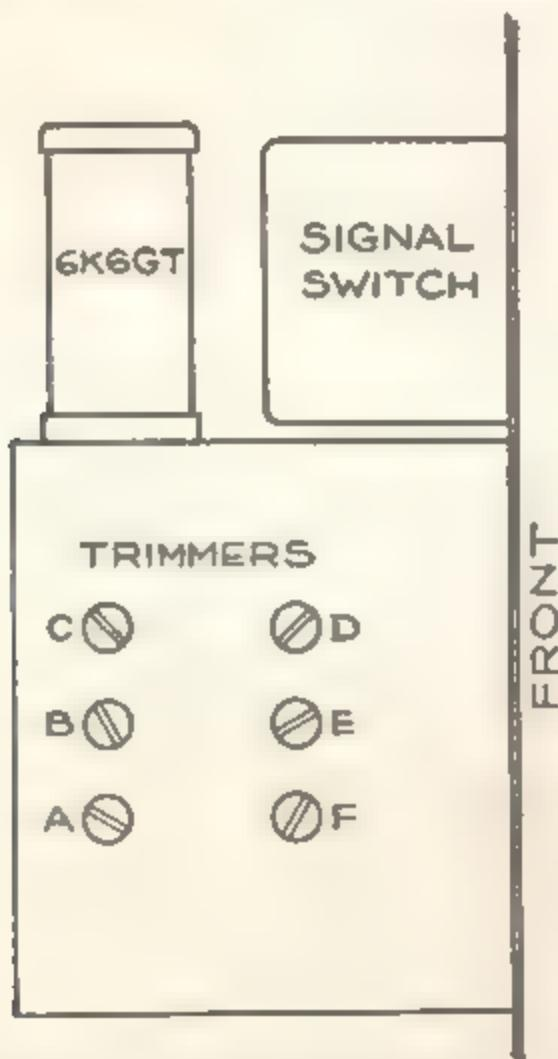
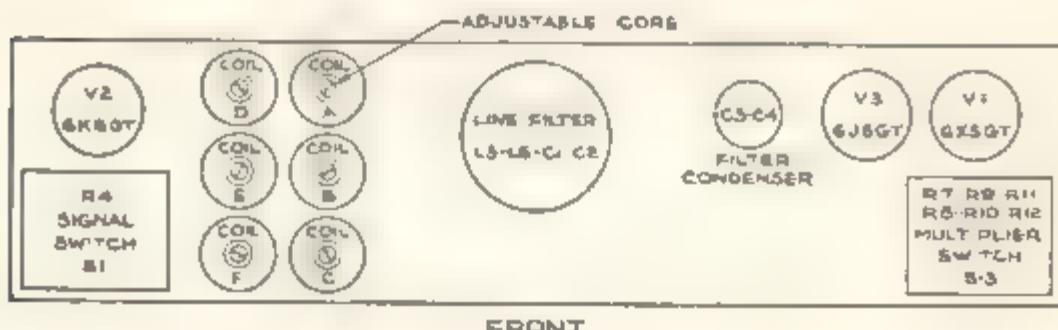

Figure 13 End View of Model 340 Chassis Showing Location of Trimmer Adjustments
Figure 14 Top View of Model 340 Chassis Showing Location of Cells and Tubes
The tubes in the Model 340 will normally have a long life but should be checked occasionally and, if they show any weakness, should be replaced with new ones. The RF oscillator tube, 6K6GT, should be replaced with a GT type of tube only. The location of tubes is shown in the top view of the chassis, Figure 14.
is shown in Figure 14 and a view of the left end of the chassis with the location of the trimmers indicated is shown in Figure 13.
c. To adjust the Model 340 in the 200 KC position, leave the dial set at exactly 200 KC and adjust the trimmer in the left end of the chassis marked "A", as shown in Figure 13, until a condition of zero beat is reached.
e. Adjust the core in coil "A" on top of the chassis as shown in Figure 14 until a condition of zero beat is reached.